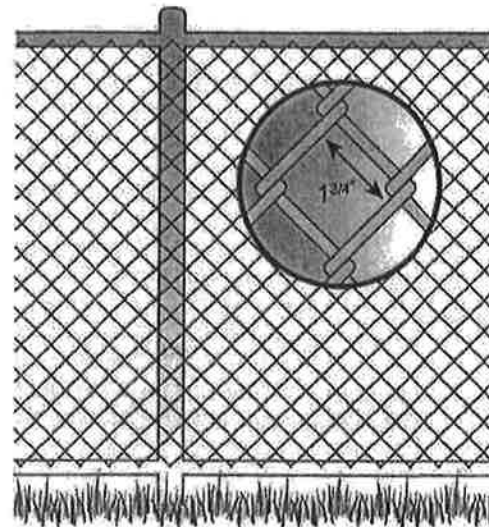

Figure 5
8. Maximum mesh size for chain link fences should not exceed 1 $\frac{3}{4}$ inch square unless the fence is provided with slats fastened at the top or the bottom which reduce the openings to no more than 1 $\frac{3}{4}$ inches (figures 5 and 6).